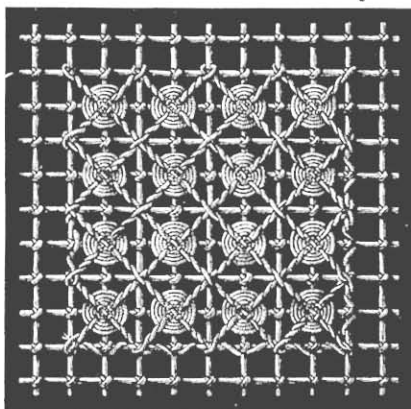

Fig. 55. Ground of big wheels.
**Ground with big wheels (fig. 55).** — Grounds of a certain size may be